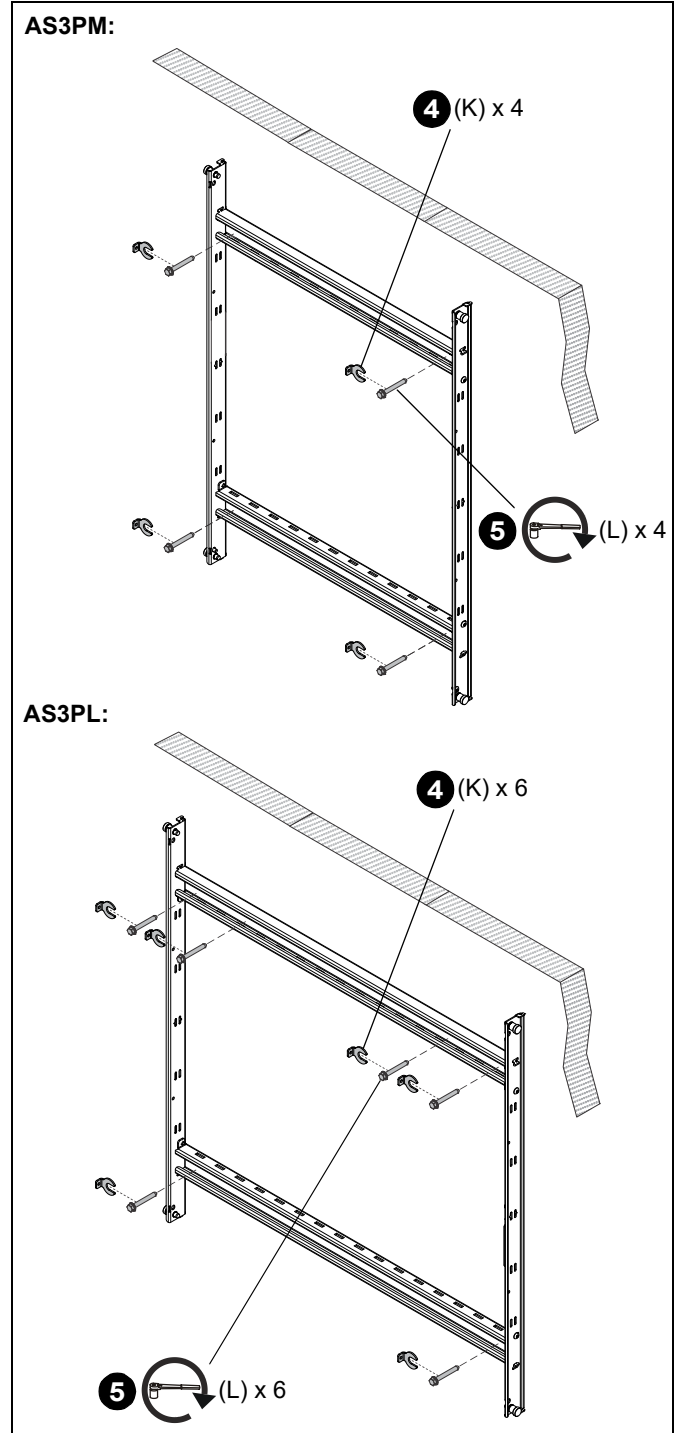

Figure 16
4. Place one slotted washer (H) over each upper flanged lag bolt. (See Figure 16)
5. Use four (AS3PM) or six (AS3PL) 5/16 x 2-1/2" flanged lag bolts (N) and four (AS3PM) or six (AS3PL) 5/16" slotted washers (H) to attach the mount to the wall through the required upper and lower mounting holes. (See Figure 16)